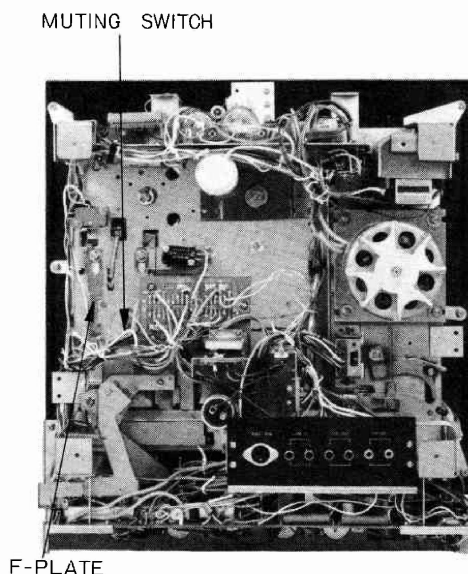

Fig. 46
- d) Adjustment of muting switch (Fig. 46, Fig. 47)